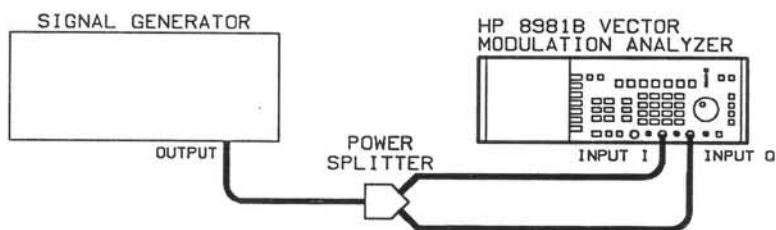

Figure 4-1. Bandwidth and Timing Accuracy Test Setup
- Connect the equipment as shown in Figure 4-1. The cables from the power splitter to the Vector Modulation Analyzer I&Q inputs must have equal electrical length.